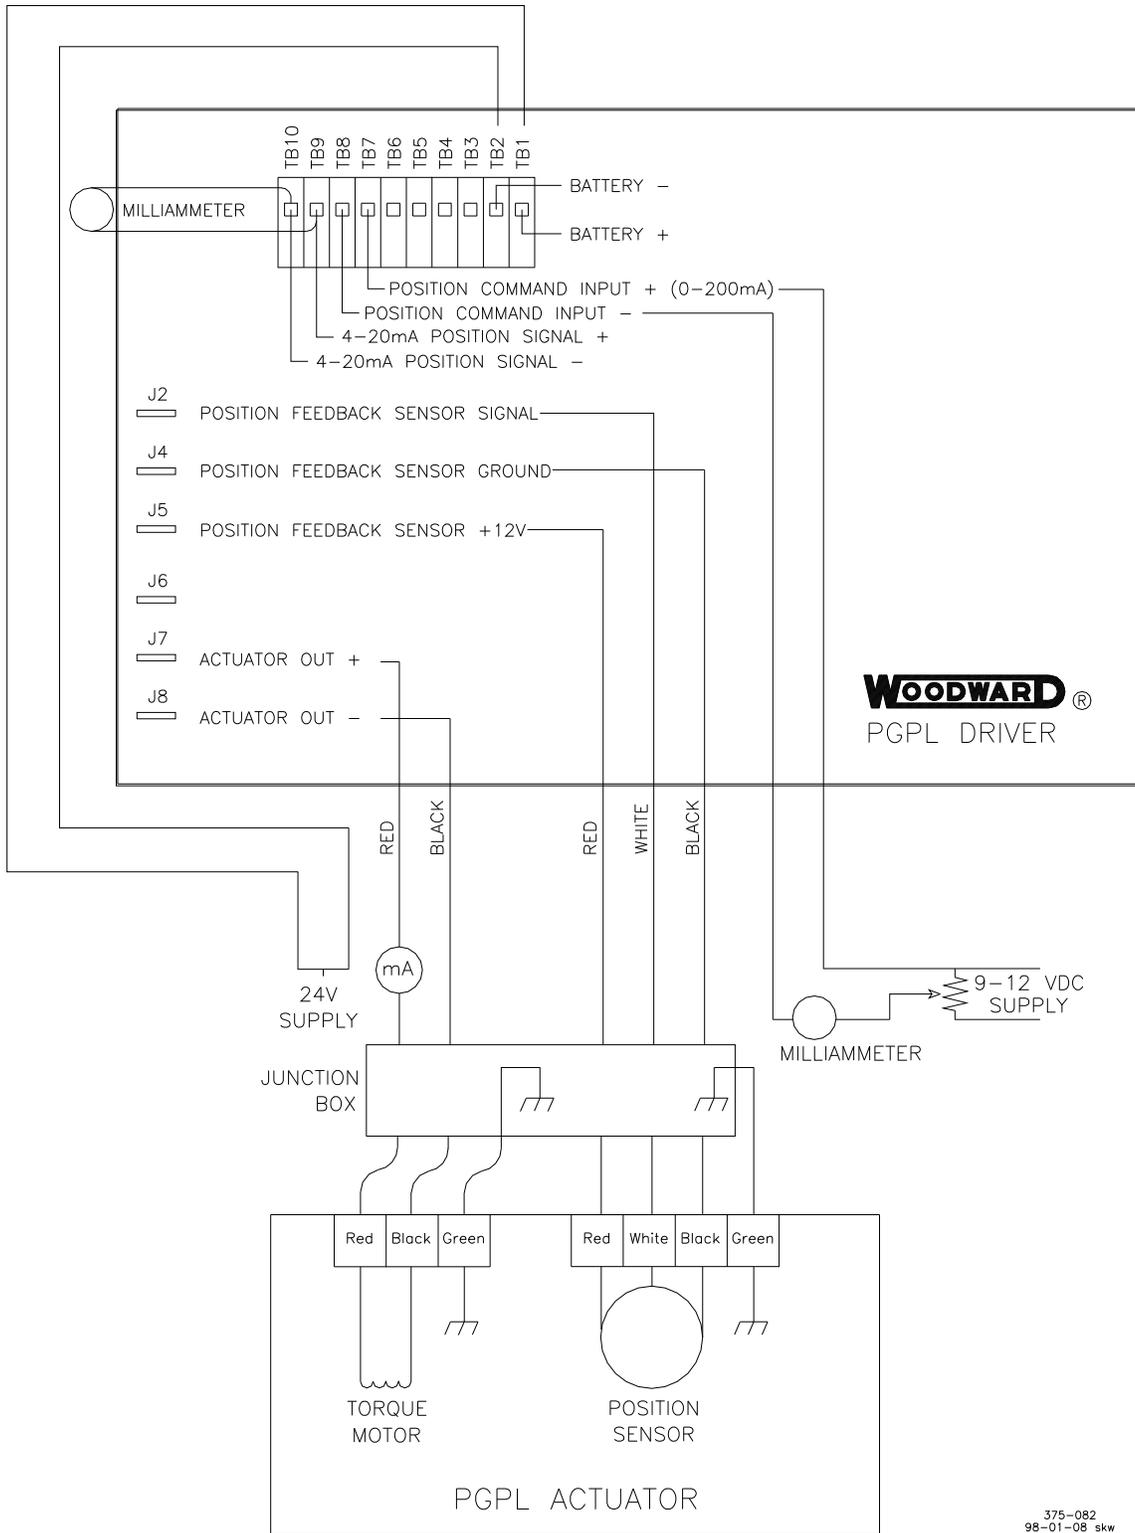

Figure 5-1. Test Wiring Schematic
8. Connect the circuit in Figure 5-1 to the actuator (also see plant wiring, Figure 2-5).